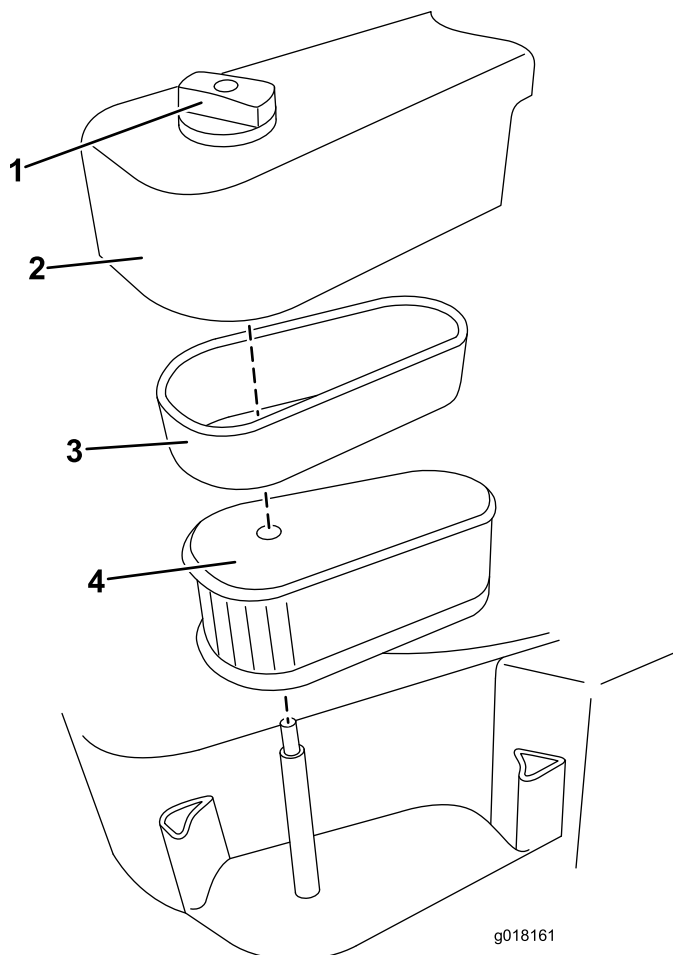

Figure 16
2. Loosen the knob securing the air-filter cover (Figure 16).
4. Carefully remove the foam filter and the cartridge together, then separate the foam filter from the cartridge (Figure 16).
7. Install the cover (Figure 16).